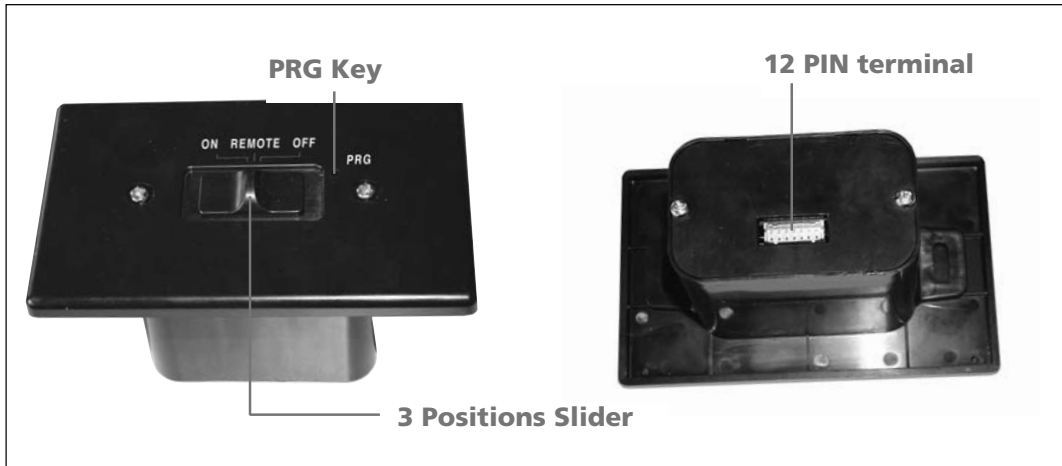

Fig. 3: Proflame Receiver body.
The Proflame Receiver (Fig. 3) connects directly to the gas valve with the wiring harness provided. The Receiver is powered by 4 AA type batteries. The Receiver accepts commands via radio frequency from the Transmitter to operate the appliance in accordance with the particular Proflame system configuration. The Receiver's three position slider switch can be set to one of three positions: ON (manual override), Remote (Remote control) or OFF.
Insert the end of the paper clip, or other similar object into the hole marked "PRG" on the front face of the Receiver (Fig. 3). The Receiver will "beep" three (3) times to indicate that it is ready to synchronize with a Transmitter. Install the 3 AAA type batteries in the Transmitter battery bay, located on the base of the Transmitter. With the batteries already installed in the Transmitter, push the On button. The Receiver will "beep" four times to indicate the Transmitter's command is accepted and sets to the particular code of that Transmitter. The system is now initialized.